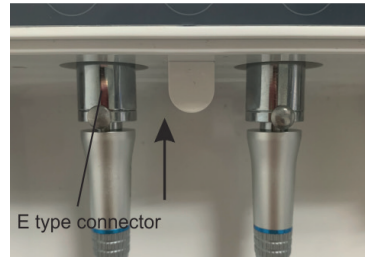

Figure 9
1. Open the door cover, (as shown in Figure 9)
2. Open the door cover, (as shown in Figure 9)